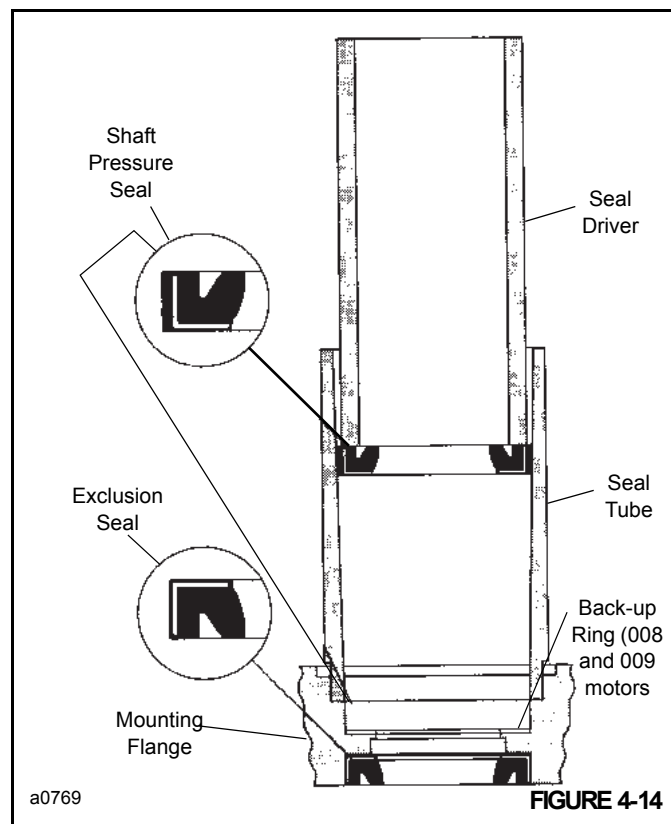

FIGURE 4-14
4. Install exclusion seal (2) Figure 4-7 in flange (3) with the lips of the seal facing out Figure 4-14. Carefully press the exclusion seal in place.
5. Visually check seal seats in the mounting flange for scratches or other marks that might damage the seals (5). Check for cracks in flange (3) that could cause leakage.
6. Lubricate inside diameter of seal tube and outside diameter of shaft pressure seal with light film of clean petroleum jelly. Align small inside diameter end of seal tube with seal seat in mounting flange (3). Install back-up ring (4) and pressure seal (5) in tube with lips of seal face up Figure 4-14. Insert seal driver in tube and firmly push seal seat with a rotating action.